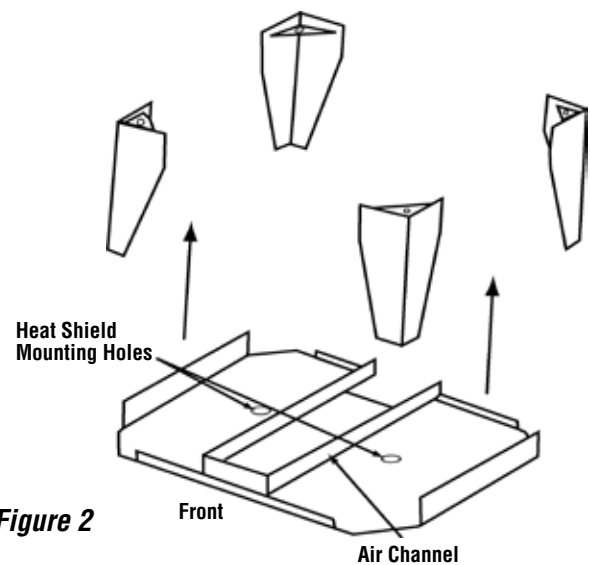

Figure 2
4. Use the two bolts and washers provided with the heatshield kit to mount the heatshield as shown in **Figure 2**.